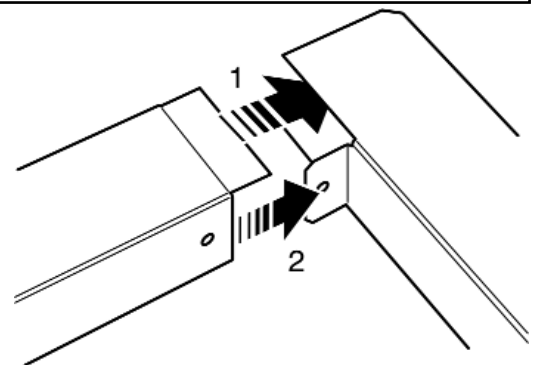

Figure 18. Fitting the foam seal
**11.** The sides have a stepped top face. These must be located on the inside the top piece (See point 1 of figure 18). The tabs on the top piece must locate on the inside of the side pieces (See point 2 of figure 18). Secure the two side pieces to the top piece using two self tapping screws supplied. Locate the screws from inside the 'U' channel.